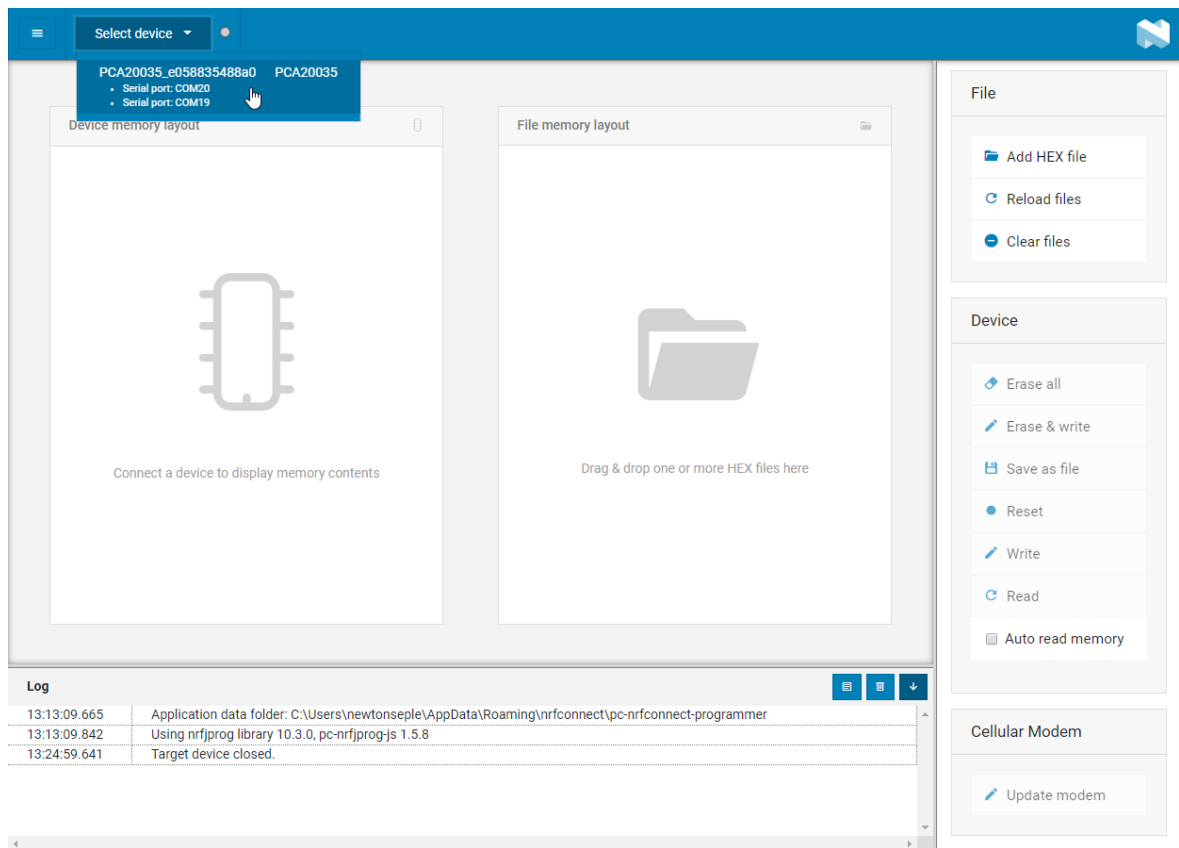

Figure 8: Connecting to Nordic Thingy:91 using nRF Connect Programmer
- Click **Select device** and select the appropriate device entry from the drop-down list in the nRF Connect Programmer as shown in Figure 8: Connecting to Nordic Thingy:91 using nRF Connect Programmer on page 17.